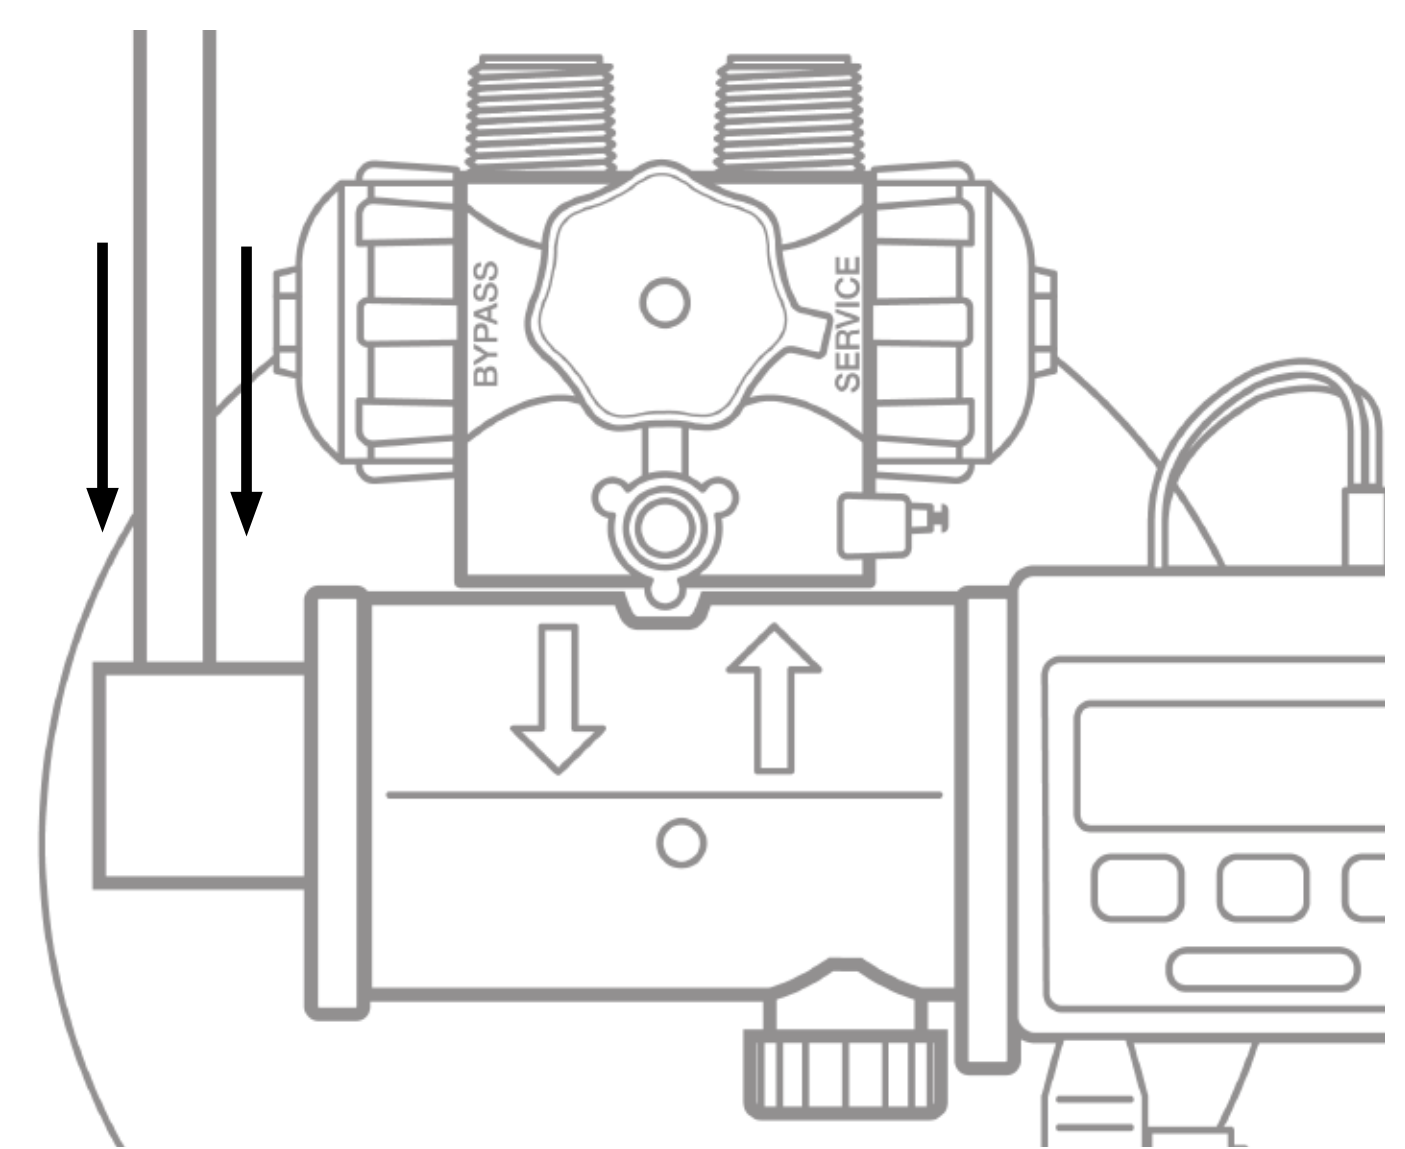

Figure 4: Connect Drain Line
1. Attach the overflow elbow and check that it is in the down position. (See Figure 4.)